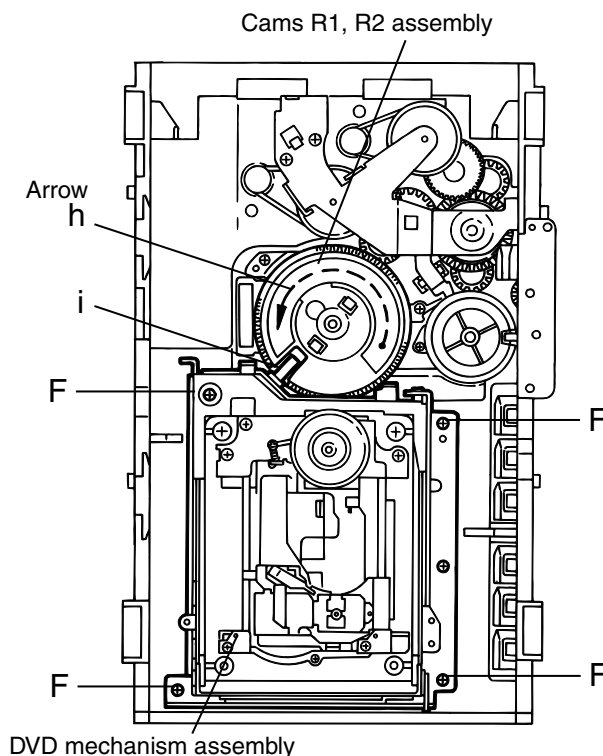

Fig.10
■ Removing the DVD mechanism assembly(See Fig.10)
1. While turning the cams R1 and R2 assembly in the arrow direction h , align the shaft i of the DVD mechanism assembly to the position shown in Fig.10.